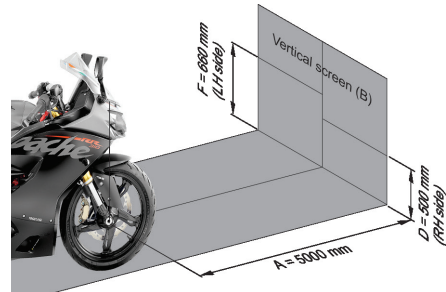

Fig. 43
- Place the motorcycle upright in a uniform flat surface while ensuring the head lamp center (A) is 5 meter away from a vertical wall or screen (B). (ref. Fig. 43)
- Adjust the RH side projector lamp adjuster (C) clockwise (Downward) or in anti-clockwise (Upward) and match the low beam cut-off line to the marking line (D) (500 mm) on a vertical wall or screen. (ref. Fig. 43 & 44)
- Adjust the LH side projector lamp adjuster (E) clockwise (Downward) or in anti-clockwise (Upward) and match the low beam cut-off line to the marking line (F) (660 mm) on a vertical wall or screen. (ref. Fig. 43 & 44)